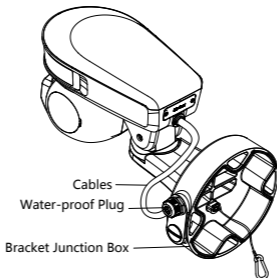

Figure 2-8 Route the Cables
- 2). Route the cables through the water-proof plug, and place the cables in the bracket junction box as shown in Figure 2-8.